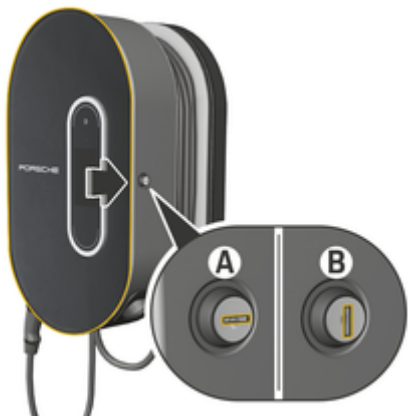

Fig. 40: Charging dock
- ▶ Turn the lock to position **A** (Fig. 40).
- ▶ Turn the lock to position **B** (Fig. 40).